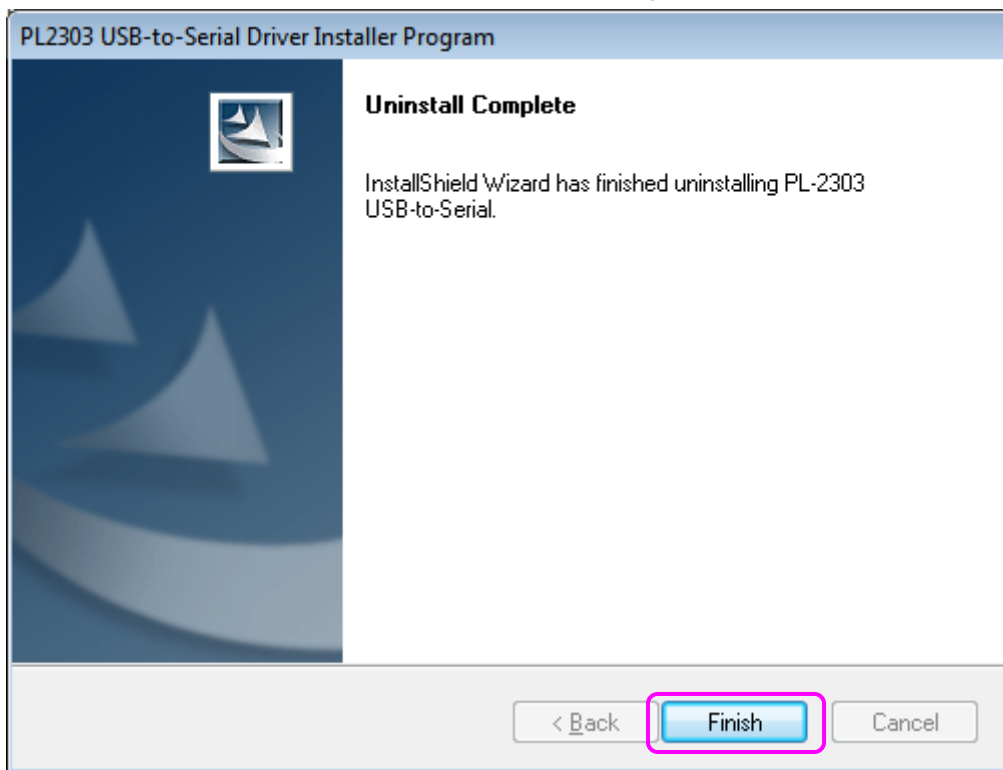

Fig 2-12
Step 4 : Click [Finish] to finish the uninstall. (Fig 2-12)